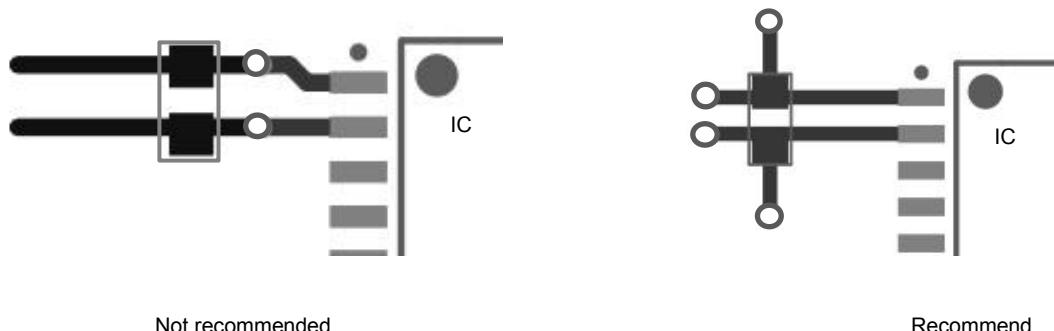

Figure14-2
3. When it is necessary to place vias in the power supply line and the ground wire, the position of the vias should be placed on the outside of the capacitor relative to the chip pins ,rather than between the capacitor and the chip, as shown in the figure14-2 below to reduce the number of vias effect of parasitic inductance.